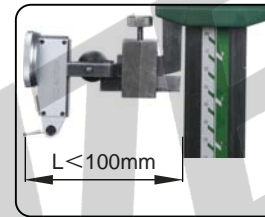

fig.2
- The distance L between contact point and base should be within 100mm(fig.2).